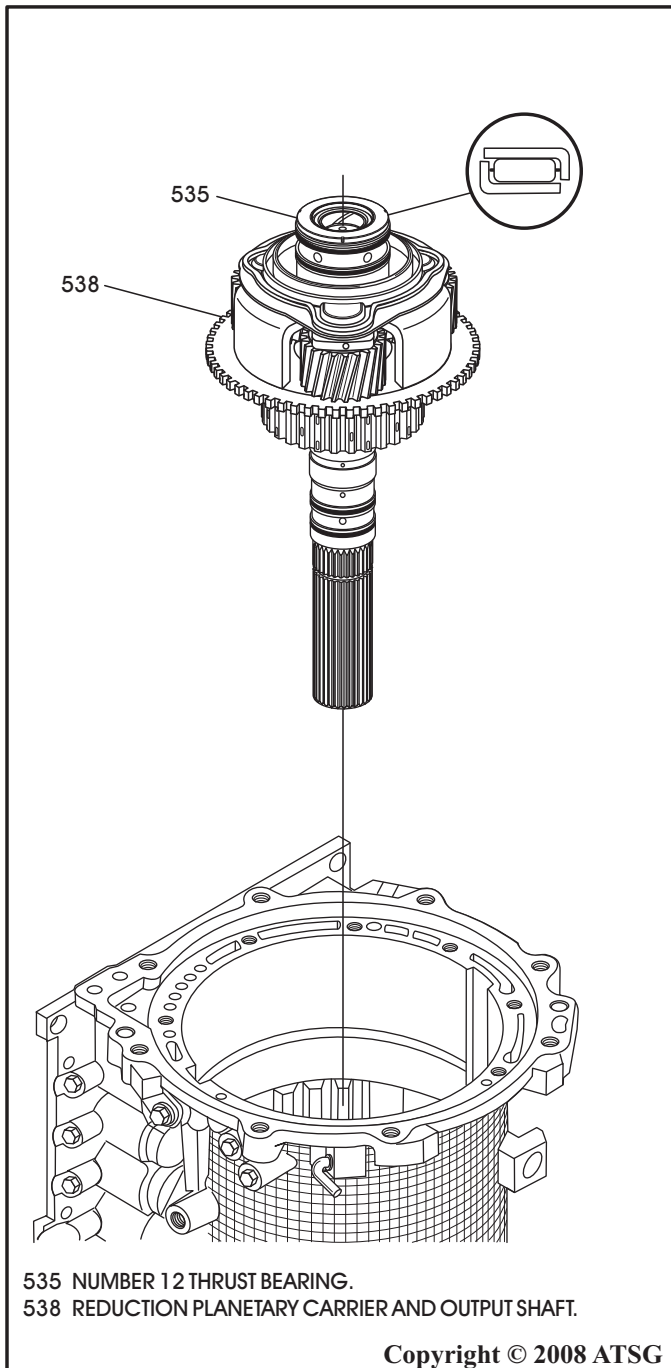

Figure 186
8. Ensure the number 12 thrust bearing is still in place on top of the reduction carrier, as shown in Figure 186, and install the reduction carrier by rotating back and forth, to engage all direct clutch plates, until fully seated.